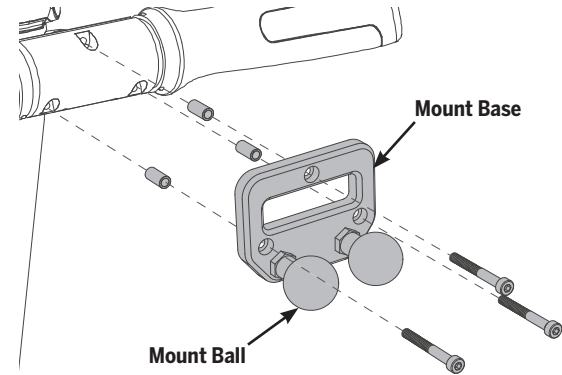

Figure 16. Install Handlebar Accessory Mount Base
4. Install the Mount Base to the Handlebar using three 35 mm fasteners and three spacers as shown in **Figure 16**. Torque the fasteners to **11.0 N-m (8.1 ft-lbf)**.